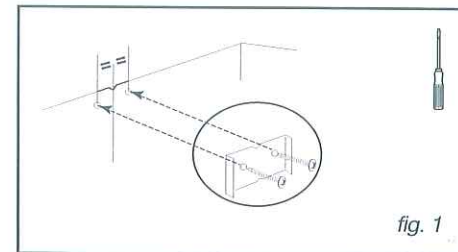

fig. 1
– Using the two screws (fig. 1), attach the metal chimney bracket against the wall, flush with the ceiling for support.